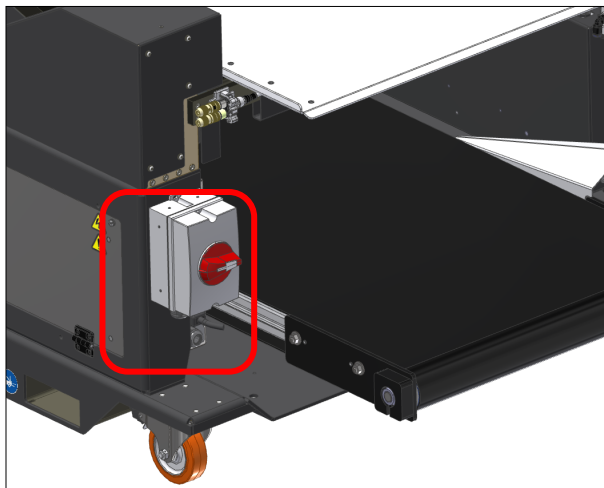

Figure 1. Main Power Switch.
1. Before plugging the cord into the back of the machine, ensure that Main Power Switch is in the OFF position. Figure 1.